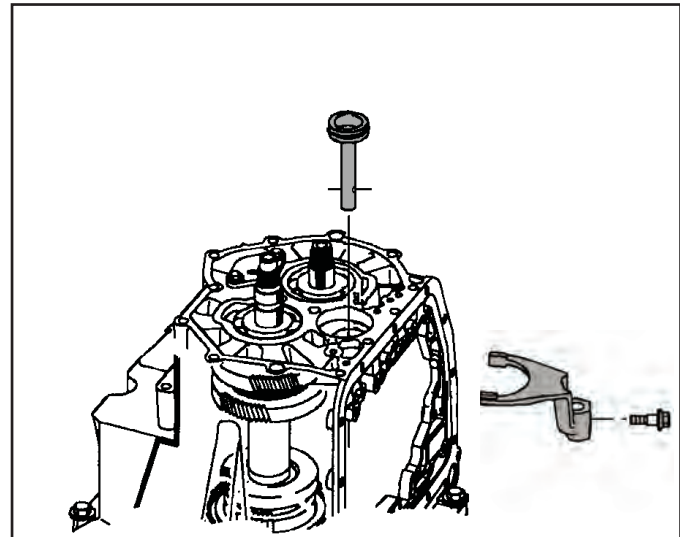

Figure 201
22. Slide the forward/reverse fork onto the second/reverse sleeve in the gear box (See Figure 201).
25. Install the fork to servo piston bolt and torque to 10 N•m (89 in. lbs) as shown in Figure 201.